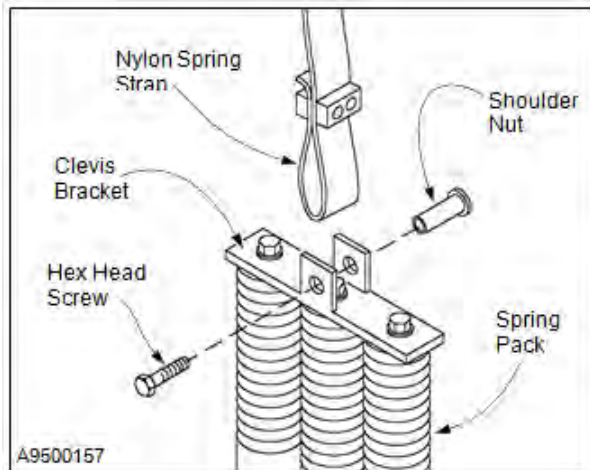

Figure 63
5. To release the spring pack from the strap, remove the hex screw and the shoulder nut passing through the clevis bracket located at the top of the spring pack. (See Figure 63.)